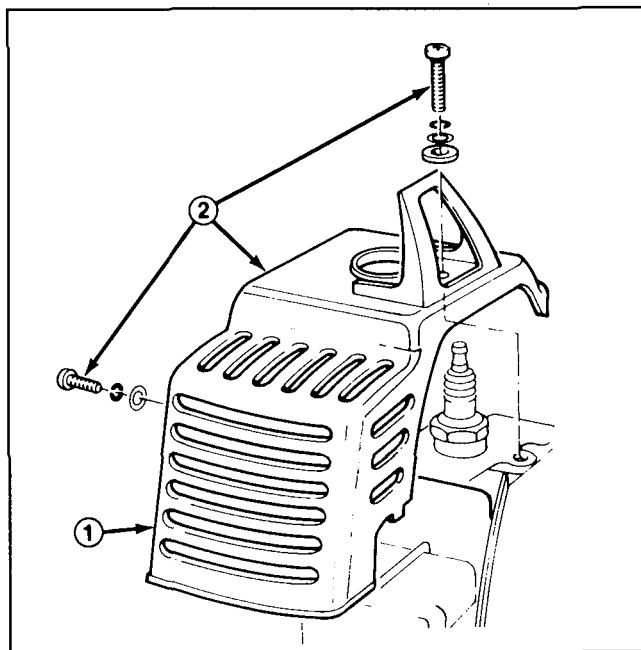

Figure 14
## SERVICING MUFFLER (Figs. 14 & 15)
1. Remove three (3) screws securing muffler cover to trimmer (Fig. 14).